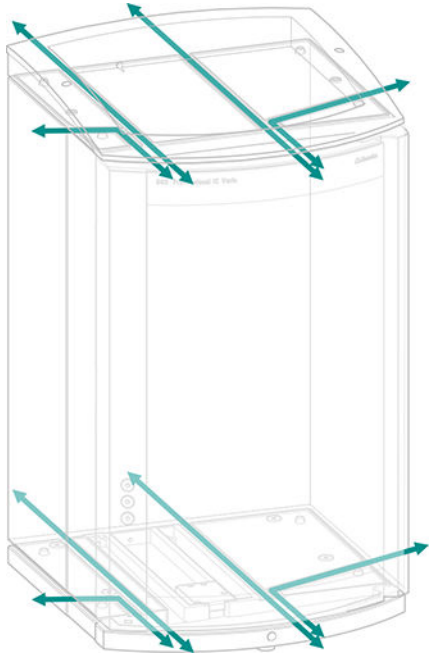

Figure 5 Ducts for capillaries
- Ducts between the instrument and the base tray as well as between the instrument and the bottle holder (*see figure 5, page 17*)